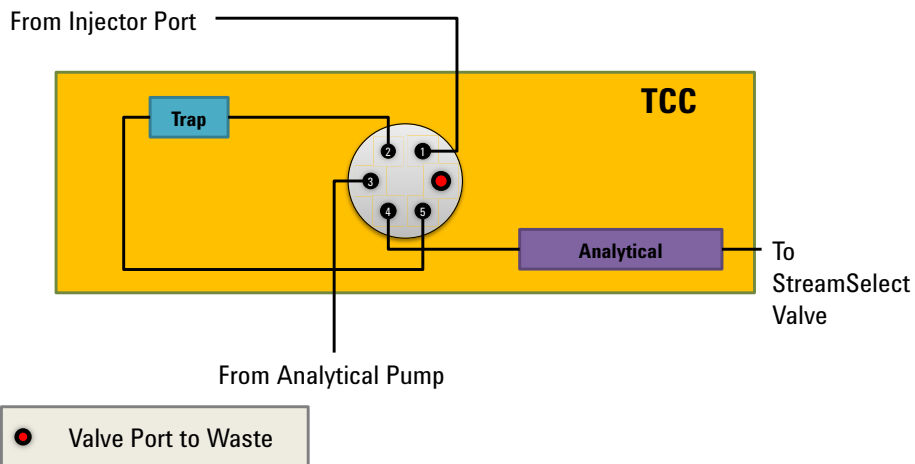

Figure 9 Detailed TCC diagram for systems *with* online sample cleanup
- d Make the TCC connections as shown in Figure 9.